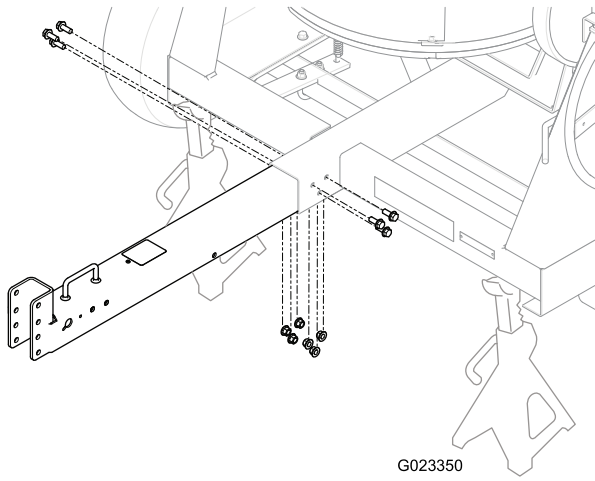

Figure 3
4. Install the tow pole into the opening at the front of the machine, and secure it with 6 short bolts and 6 locknuts torqued to 102 N-m (75 ft-lb); refer to Figure 3.